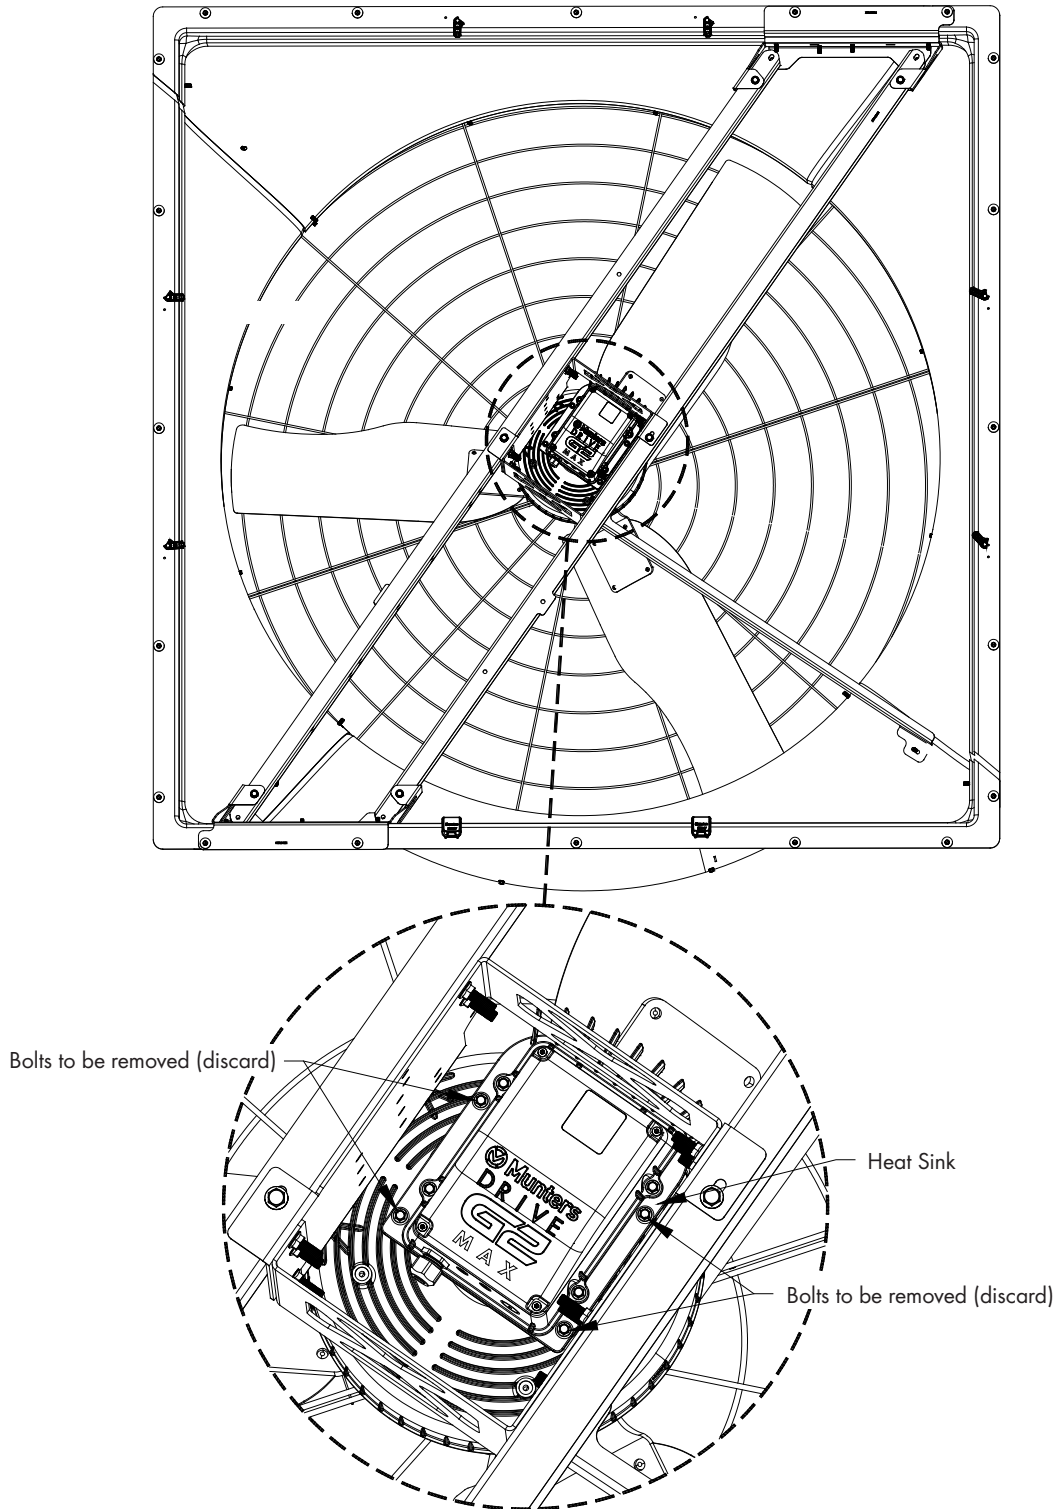

Figure 3
Remove the (4) Bolts holding the Heat Sink with Control Box to the back of the Munters Drive Motor and carefully set the Heat Sink with Control Box in the fan. See Figure 3. Discard the (4) bolts removed.